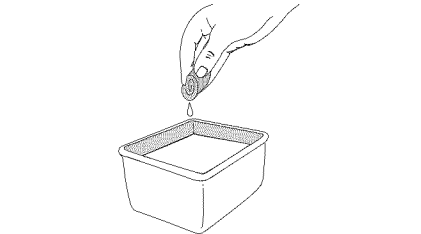

Fig. 15
3. Wash the filter in detergent and water (Fig. 15). Rinse the filter thoroughly. Squeeze out excess water. Allow it to dry completely.